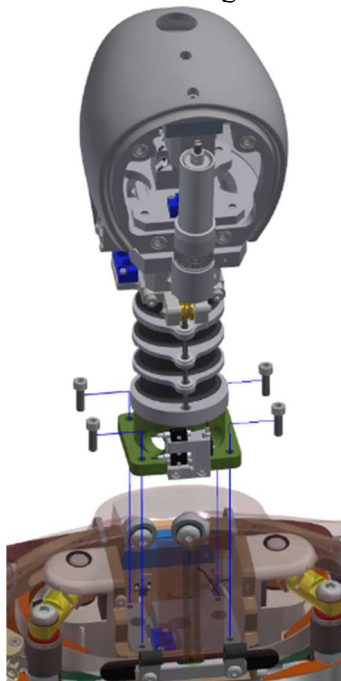

Figure 4-57. Secure lower neck load cell (SA572-S106) to neck pitch change mechanism
- 4.5.1 Secure the Lower Neck Load Cell (SA572-S106) to the Neck Interference Plate (474-3058) of the Neck Posture Adjustment Assembly (474-3050) using four M5 X 0.8 X 16 SHCS as shown in Figure 4-57.